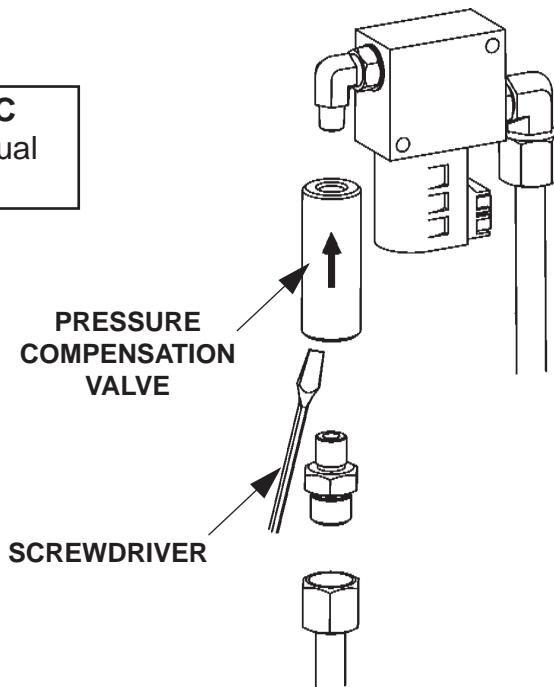

FIG. 52-2
3. Lower the platform to the ground and remove the pressure compensation valve (**FIG. 52-2**) located at the top of each column. Check if pressure compensation valves are contaminated. Disassemble, try to move plunger with small screwdriver, and then clean each valve if required (**FIG. 52-2**). Reinstall or replace each valve if necessary.